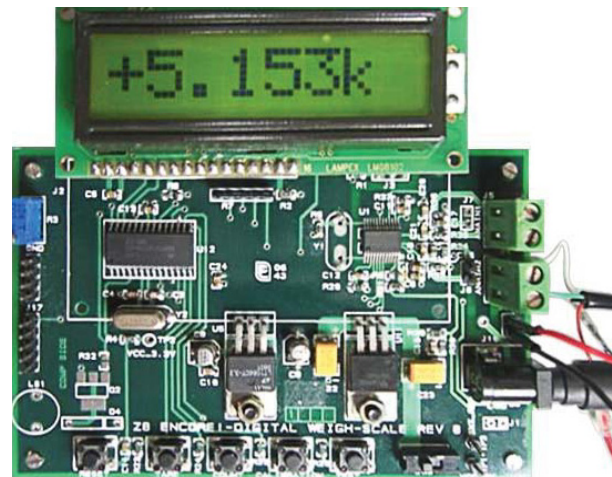

Figure 1. Digital Weigh-Scale Reference Design Board
- Displays weight on single-line 8 character (8 x 1) LCD (see Figure 1)